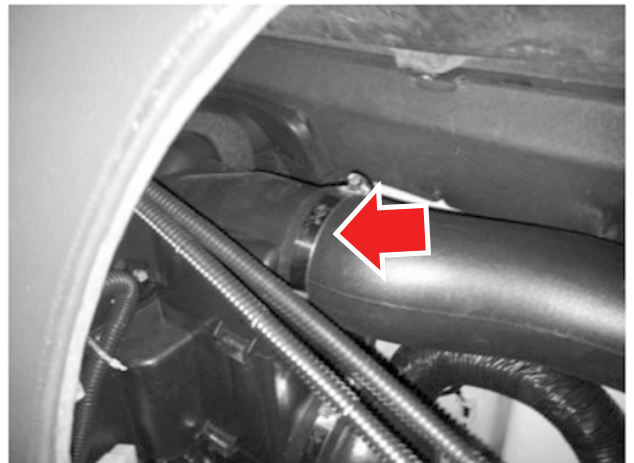
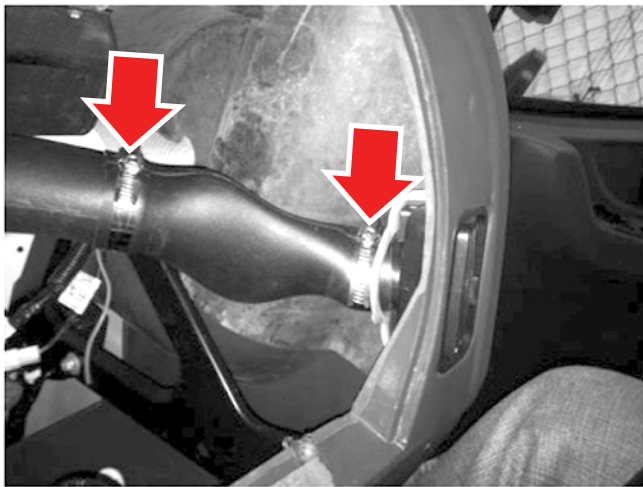

Figure 21-4
Figure 21-5
4. Install hose clamps (673484) over duct interface, but do not tighten (see Figure 21-4 and Figure 21-5).
5. Tighten hose clamps (see Figure 21-5).